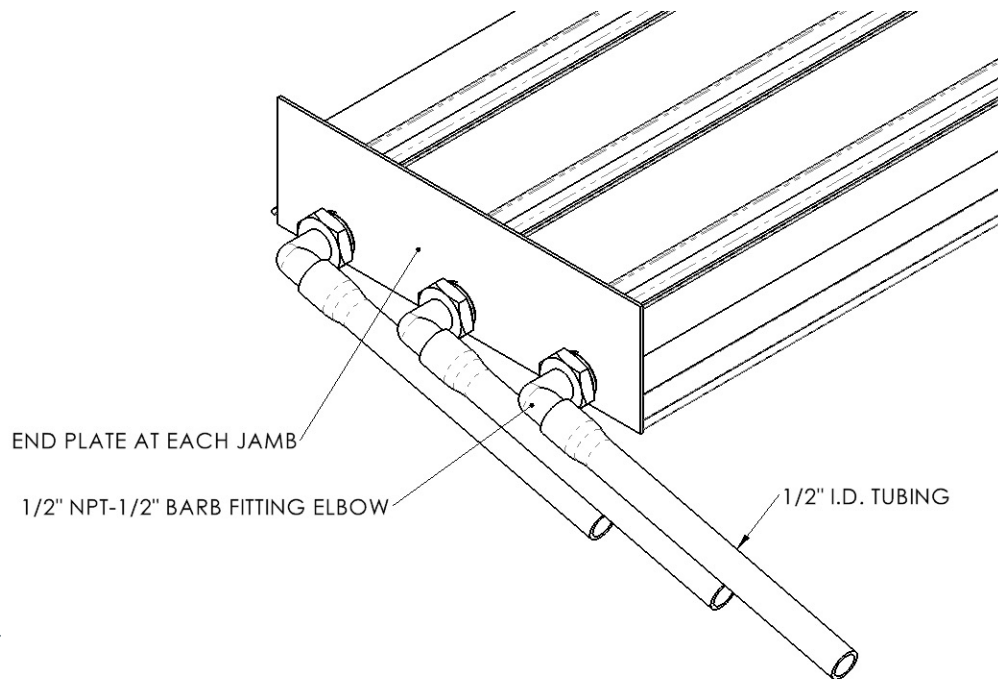

Figure 5
- Side Drain Fitting Sill (See Figure 5).
Screw the 1/2" NPT pipe to 1/2" hose barb fittings using tread sealant or Teflon tape to the ends of each track. Push fully the 1/2" minimum inside diameter hoses onto the barbed fittings and route to an appropriate drainage location, ensuring that the hoses have a continuous downward slope of at least 1/4" per foot. (See Figure 5). Skip to step 10.